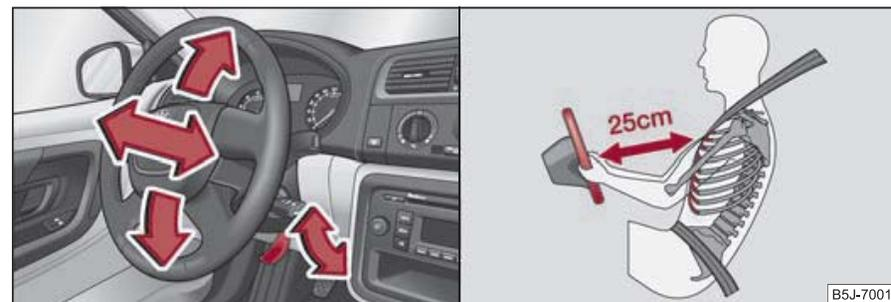

Fig. 3 Adjustable steering wheel: Lever on the steering column/the correct distance of the driver from the steering wheel
- Pull the lever below the steering wheel down ⇒ fig. 3 - left.
- Adjust the steering wheel so that the distance between the steering wheel and your chest is at least 25 cm ⇒ fig. 3 - right. Not maintaining this minimum distance will mean that the airbag system will not be able to properly protect you - hazard!